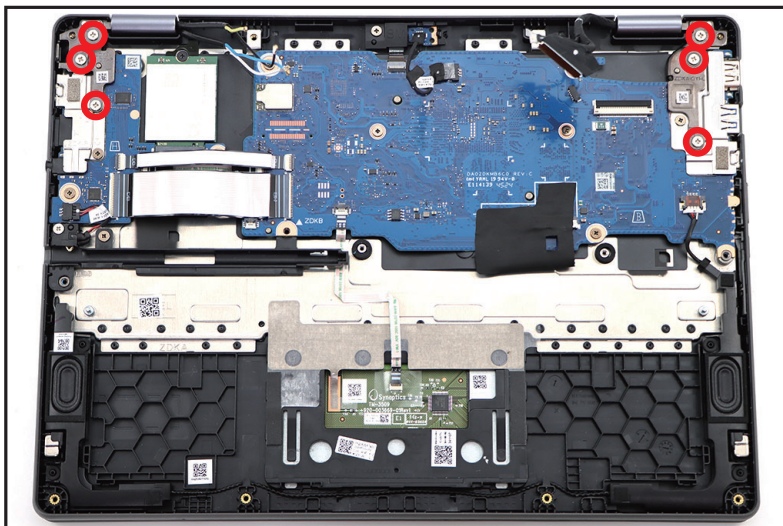

Figure 1-20. LCD Module Removal
5. Remove six (6) screws securing the LCD hinges (Figure 1-20).